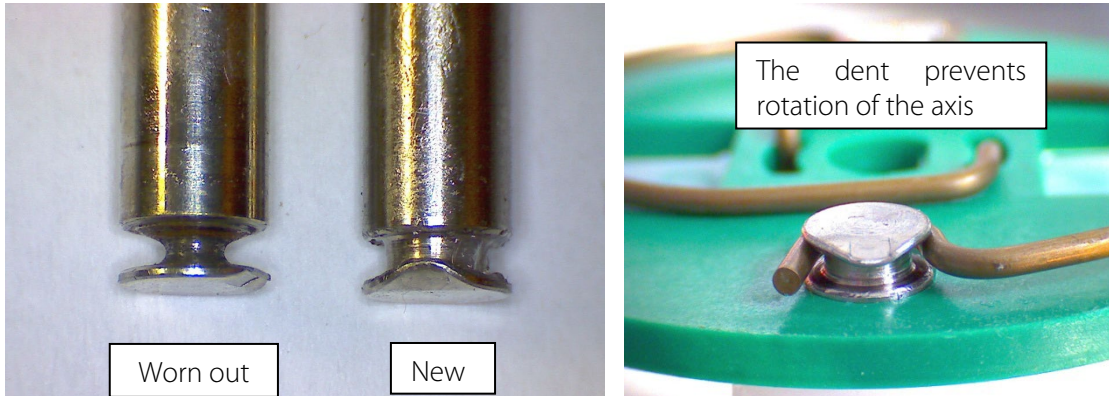

Figure 11 Check of axes and rolls
6. Dismount roller axes and change contact pulleys. Take care that axes are not worn out by the springs and have damaged the dent at the axes front end. In case of abrasion the axes have to be changed (see Figure 11).
1. Make sure that contact pulleys move easily on the axis. After remounting the axis with contact pulley into the driver, the spring has to be mounted as shown as in Figure 11. Please pay attention to the alignment of the dent.